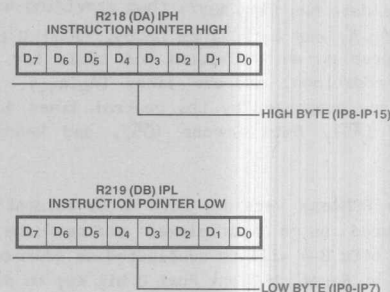

Figure 3-10. Instruction Pointer
3.6 INSTRUCTION POINTER (IP)
The Super8 provides hardware support for implementation of threaded-code languages such as Forth. An important part of that support is in the form of a special register called the Instruction Pointer (IP) (Figure 3-10). The Instruction Pointer is made up of register pair RR218, with R218 holding the most significant byte of a memory address and R219 the least significant byte.